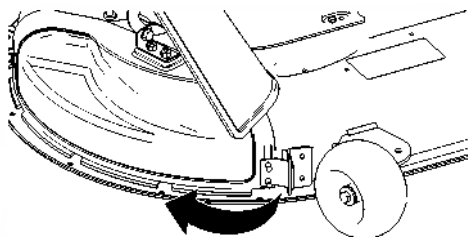

**Figure 13**
3. Angle the metal tab on the discharge cover into the slot in the bracket welded to the mower deck (Figure 13).